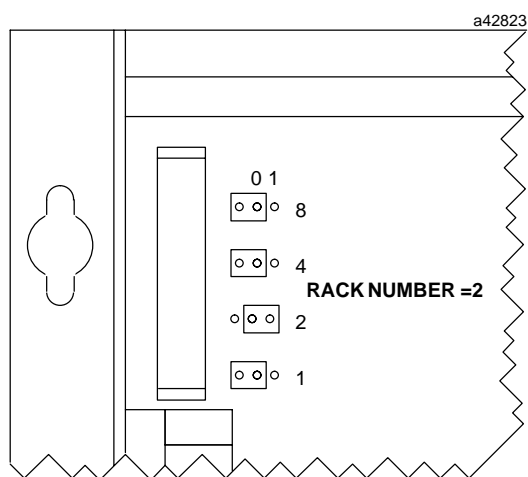

Figure 1. Rack Number Jumpers (Rack 2 Selected)
- Select expansion rack ID on rack with BERG jumpers (see figure 1).
When the Bus Receiver Module is installed the remote rack ID must also be set up. This is done with the BERG jumpers located behind the power supply as shown in figure 1. For more details, see Chapter 3 of the *Programmable Controller Installation Manual*.